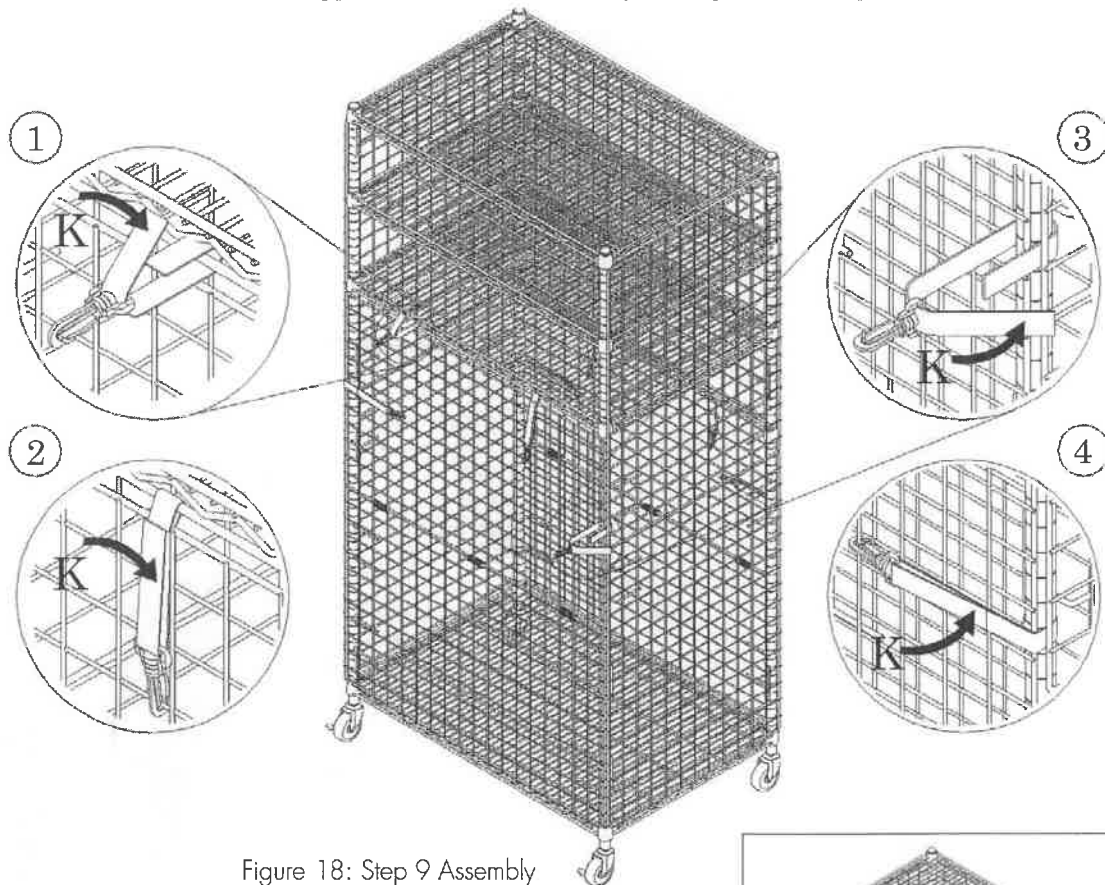

Figure 18: Step 9 Assembly
Attach clips (K) to both panels with doors (D) and (E) as shown in Figure 18 and insets.